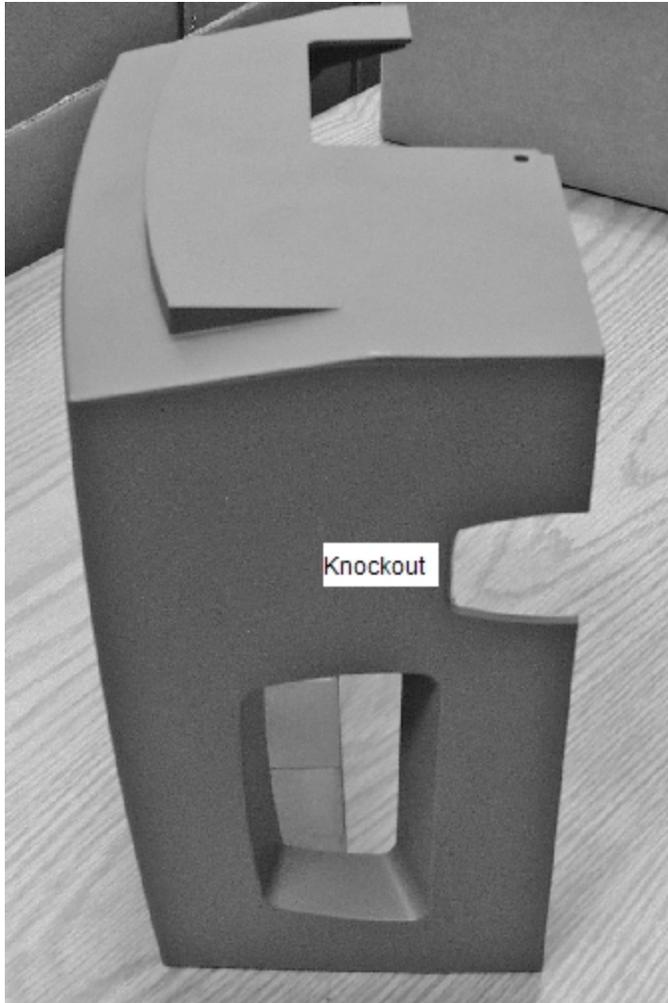

Figure 10 Lower Tower Cover
7. Remove the lower tower (drive side) cover (two screws). Remove the plastic knockout as shown in Figure 10. The HCSF drive belt will pass through this opening.